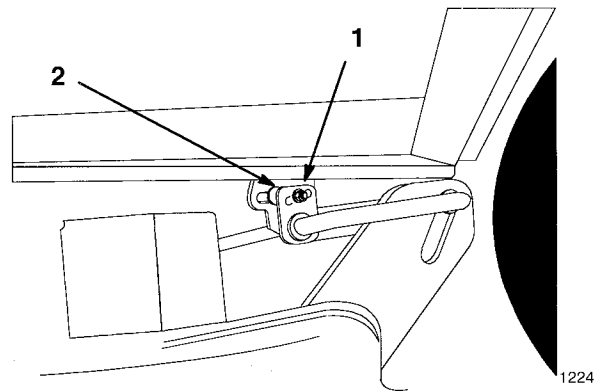

Figure 8
4. Loosen adjustment bolt on one side and rotate hanger bracket to raise or lower mower (Fig. 8).